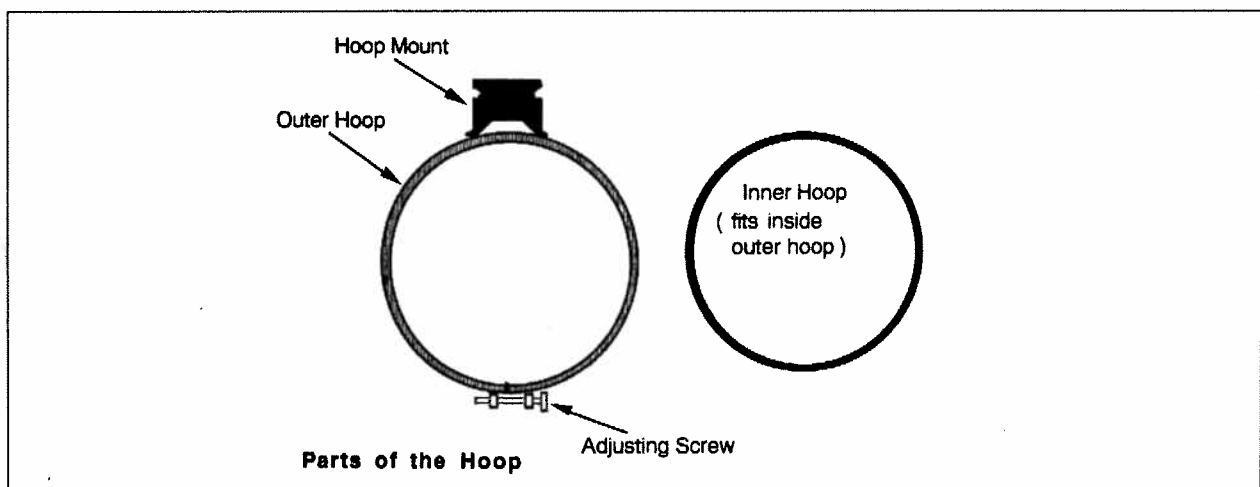

Figure 4-11
2. Loosen the adjusting screw on the outer hoop by turning it counterclockwise. See Figure 4-11.